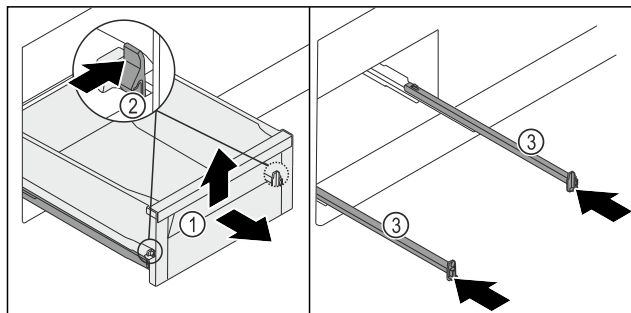

Fig. 123
- Pull out the drawer Fig. 123 (1) as far as it will go.
- Press the left and right clamp Fig. 123 (2) inward at the same time.
- The drawer Fig. 123 (1) is released from the rails.
- Lift up the drawer Fig. 123 (1) at the front.
- Remove the drawer Fig. 123 (1) from the front.
- Push in the rails Fig. 123 (3).